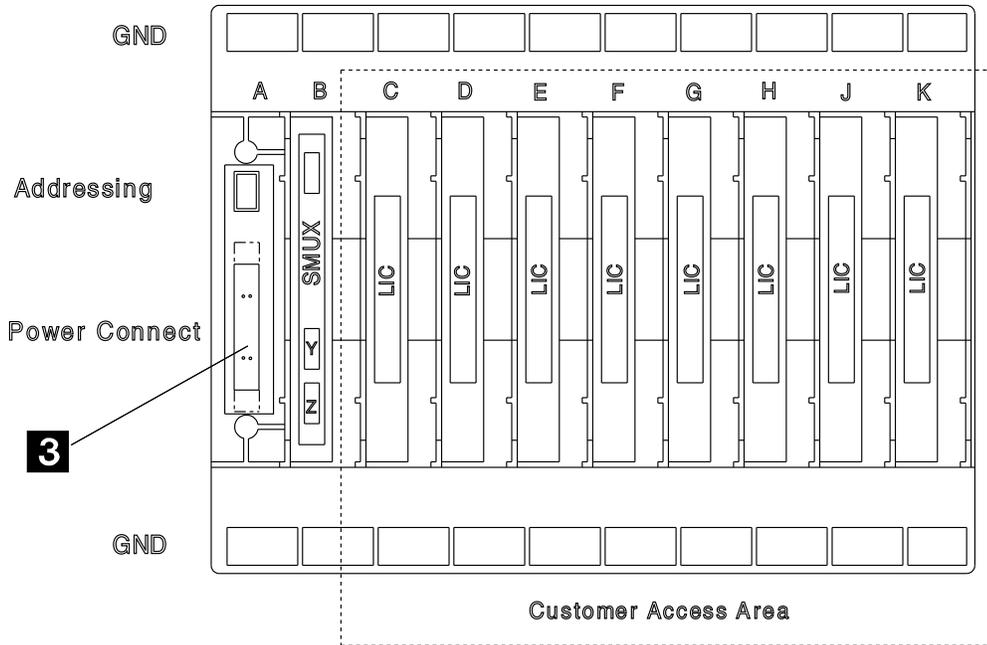
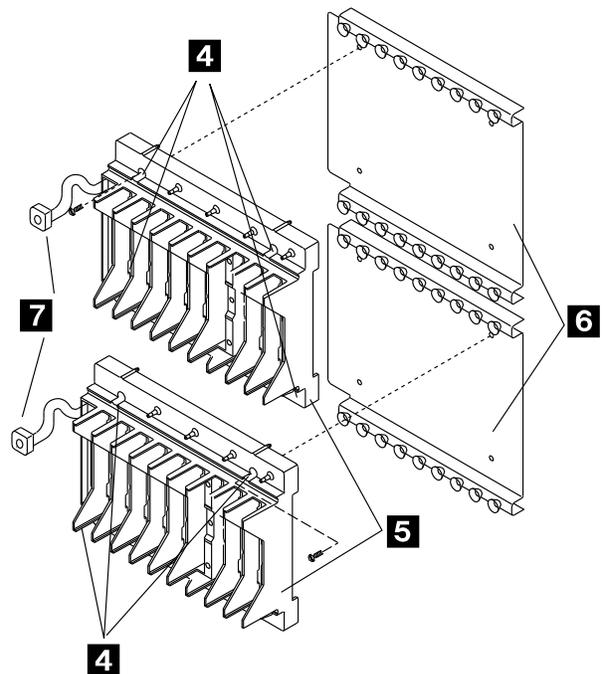

Figure 4-123. LIC Locations
Figure 4-124. LIC Board Assembly
10. Refer to **Figure 4-123** .
14. Refer to **Figure 4-123** and **Figure 4-124** .
1. Refer to Figure 4-123 on page 4-90 and set the same board address as you noted during the board removal.
2. Refer to Figure 4-124 on page 4-90.
4. Refer to Figure 4-123 on page 4-90.
6. Refer to Figure 4-124 on page 4-90.